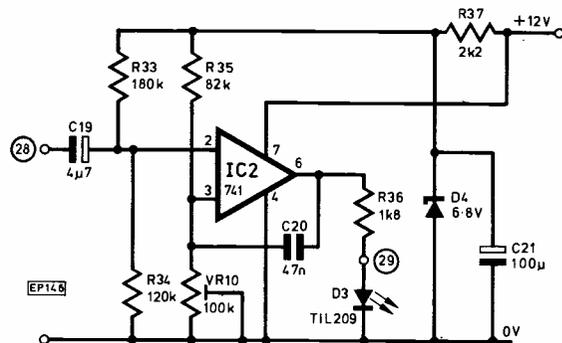

Fig. 7 Overload indicator
An overload circuit (Fig. 7) utilises an op amp as the active element. This is connected as a comparator with a d.c. bias set on the inverting input. While an a.c. coupled signal is applied to the non-inverting input. Signals from the six input channels are routed via mixing resistors to pin (28) and these are compared to the d.c. level on pin (3). Pin (2) also has a d.c. bias provided by R33 and R34, if the combined d.c. and a.c. levels on pin 2 are greater than the level on pin (3) the op amp switches into saturation. The op amp will switch at the input signal frequency but the l.e.d. will appear to be on continuously because of this high switching rate.